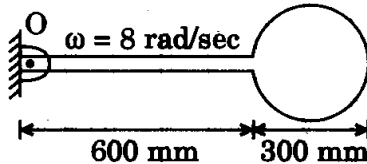

Figure 6
6. (a) A homogeneous sphere having a mass of 100 kg is attached to a slender rod having a mass of 20 kg. In the horizontal position, shown in Figure 6, the angular speed of the system is 8 rad/sec. Determine the magnitude of the angular acceleration of the system and the reaction at 'O' on the rod.